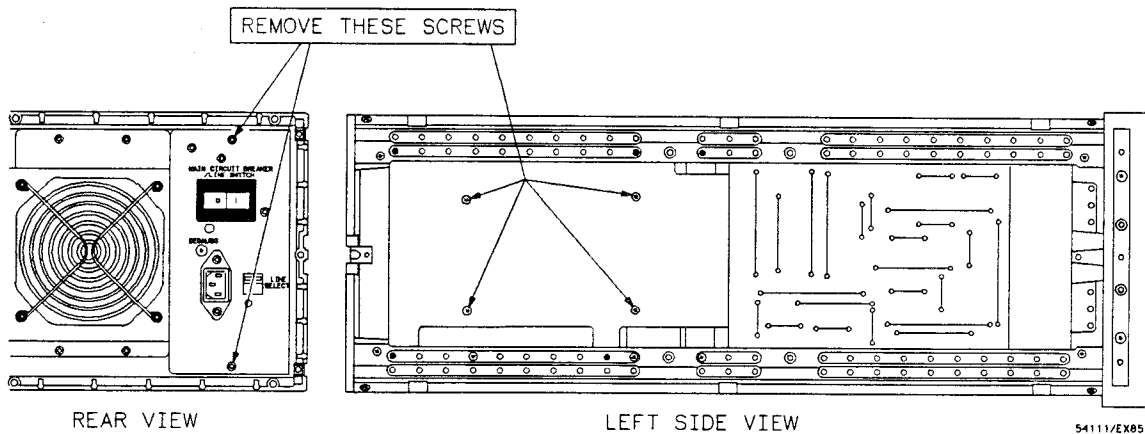

Figure 6A-2. Primary Power Supply Mounting Screws
8. Remove four screws from power supply side cover. Refer to figure 6A-2.
9. Remove two screws which attach power supply assembly to rear panel. Refer to figure 6A-2.